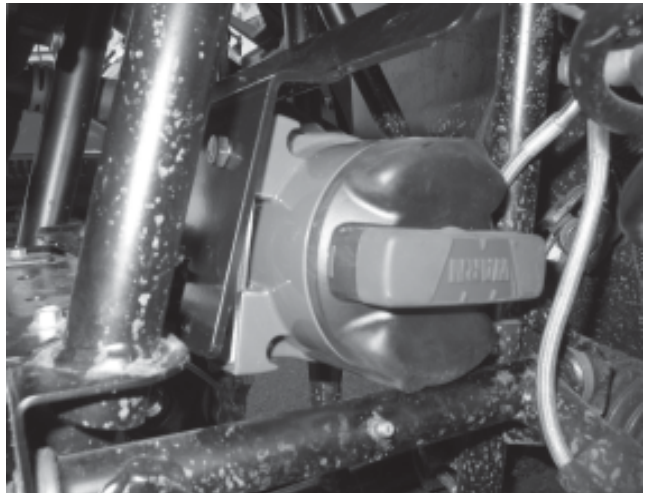

Figure 2
2. After removing the front bumper place the mounting plate into position see figure 2. At this time also place the winch into position along with the mounting plate.